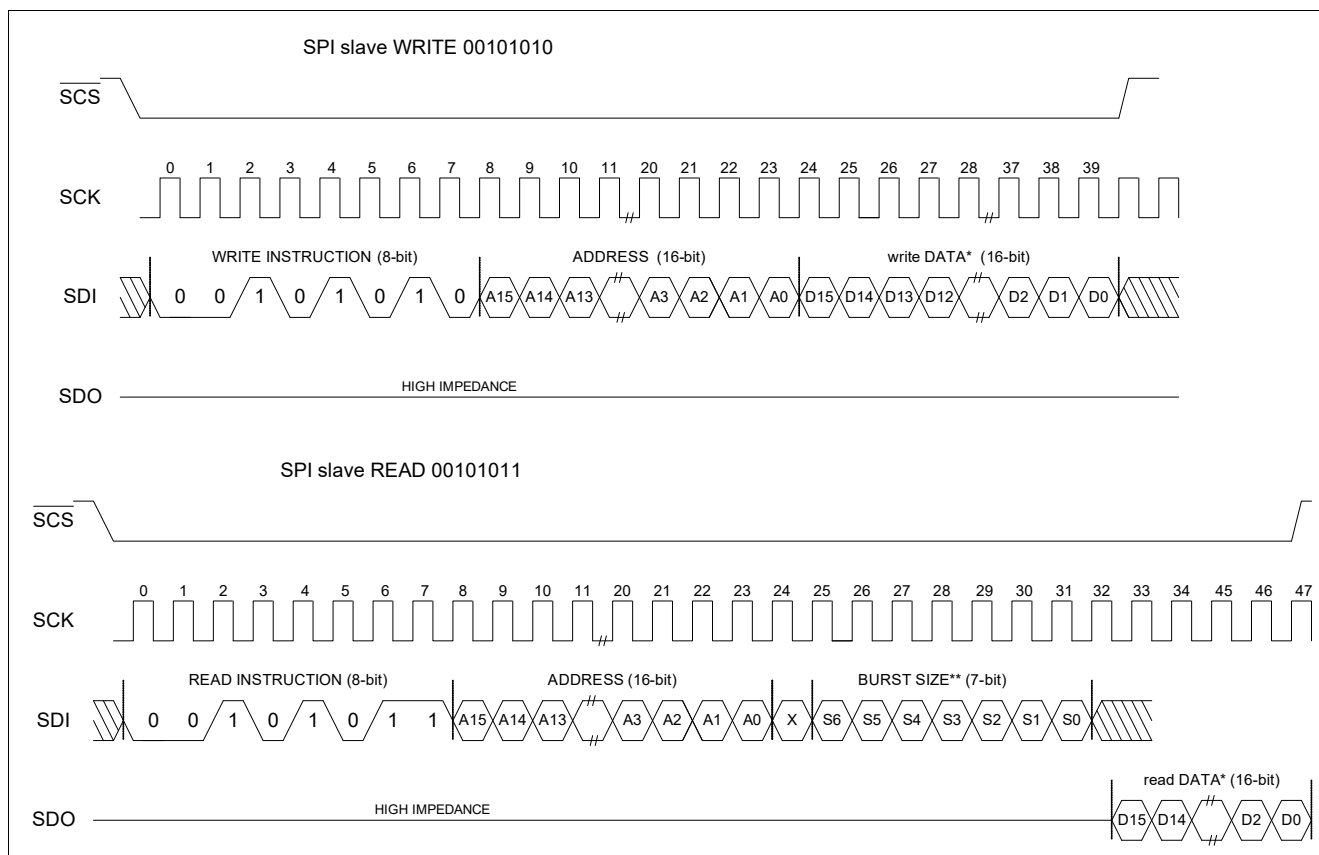

Figure 10 SPI Slave Access
The SPI Slave follows the 16-bit/24-bit serial EEPROM-like protocols (for WRITE/READ respectively). **Figure 10** shows the timing diagrams.
- SDO can also be driven up to 2 SCK cycles earlier than the sequence defined in **Figure 10**.
- When $\text{SSPI_CFG.REFCYC} = 0$, SDO is driven 2 SCK cycles earlier than the sequence defined in **Figure 10**.
- When $\text{SSPI_CFG.REFCYC} = 1$, SDO is driven 1 SCK cycles earlier than the sequence defined in **Figure 10**.
- When $\text{SSPI_CFG.REFCYC} = 2$, SDO is driven as the sequence defined in **Figure 10**.
- When $\text{SSPI_CFG.REFCYC} = 3$, SDO is driven 1 SCK cycles after than the sequence defined in **Figure 10**.